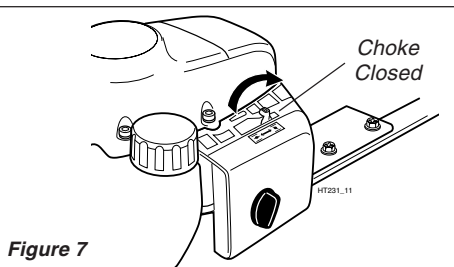

Figure 7
4. (Cold engine only) Choke the engine by moving the choke lever *forward* to the "closed" position. See Figure 7.